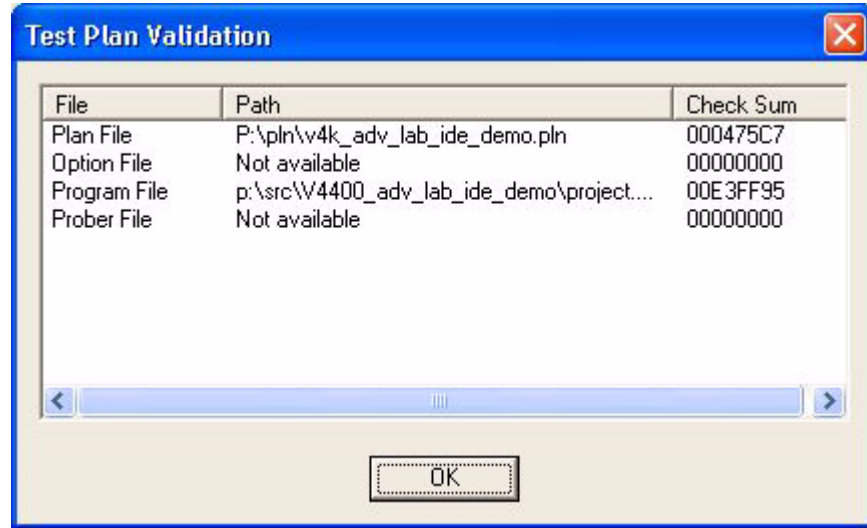

Figure 7-36. Test Plan Validation Dialog Box
- 7 Selecting displays the Test Plan Validation dialog box (Figure 7-36). The `VALIDATE 0x10` plan file test switch controls whether this dialog box displays. It displays the corresponding checksums and adds them to the summary file.